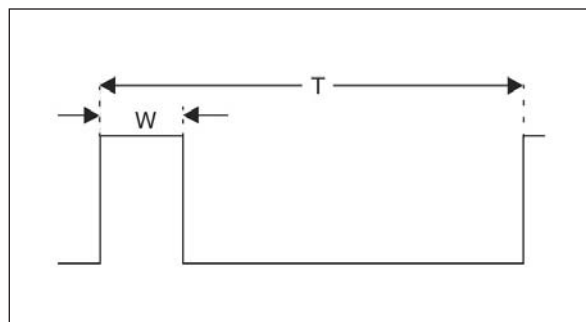
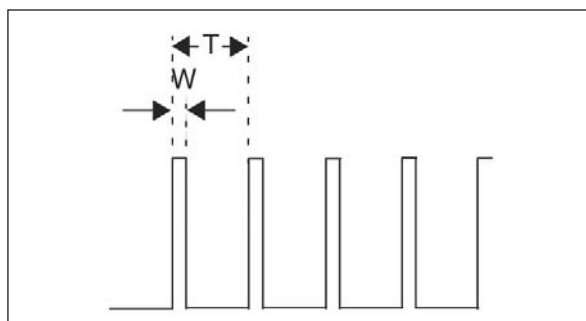

Figure 3: Low RPM
Figure 4: High RPM
In **Figure 3** and **Figure 4**, the waveform is high when light is passing through a slot in the encoder wheel and shining on the optical sensor. In the case of a Hall Effect sensor, the high corresponds to the time that the magnet is in front of the sensor. These figures show the difference in the waveforms for varying RPMs. Notice that as RPM increases, the period (T) and pulse-width (W) become smaller. Both period and pulse-width are proportional to RPM. However, since the period is the greater of the two intervals, it is good practice to measure the period so that the RPM reading from the sensor will have the best resolution. See TIP 1 in the "Tips 'n' Tricks – PICmicro Microcontroller CCP and ECCP" booklet (DS41214) for measuring period. In addition, see Tip 2 (also shown in the DS41214 booklet), which features a technique for measuring period with averaging, but is also useful for measuring high RPMs.